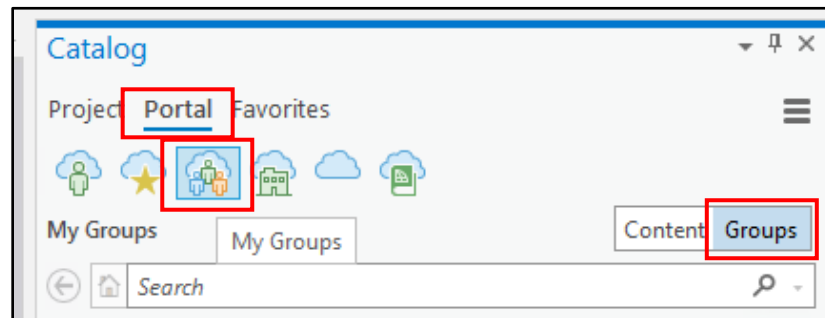

Figure 5
8. In the Catalog Pane, click on Portal, then the icon for "My Groups" (Figure 5). Toggle to "Groups" on the far right to bring up a list of AGOL groups where you are a member. Double click Stormwater Inventory.